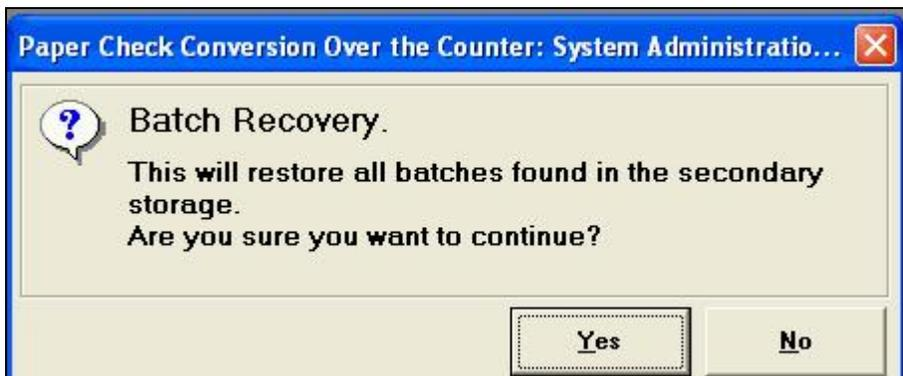

Figure 3.33
15. Logon to the SAT. Select the Batch Recovery Icon  or from the menu at the top of the screen, select **'File'**, then **'Batch Recovery...'**. The following message will appear: (Figure 3.33)